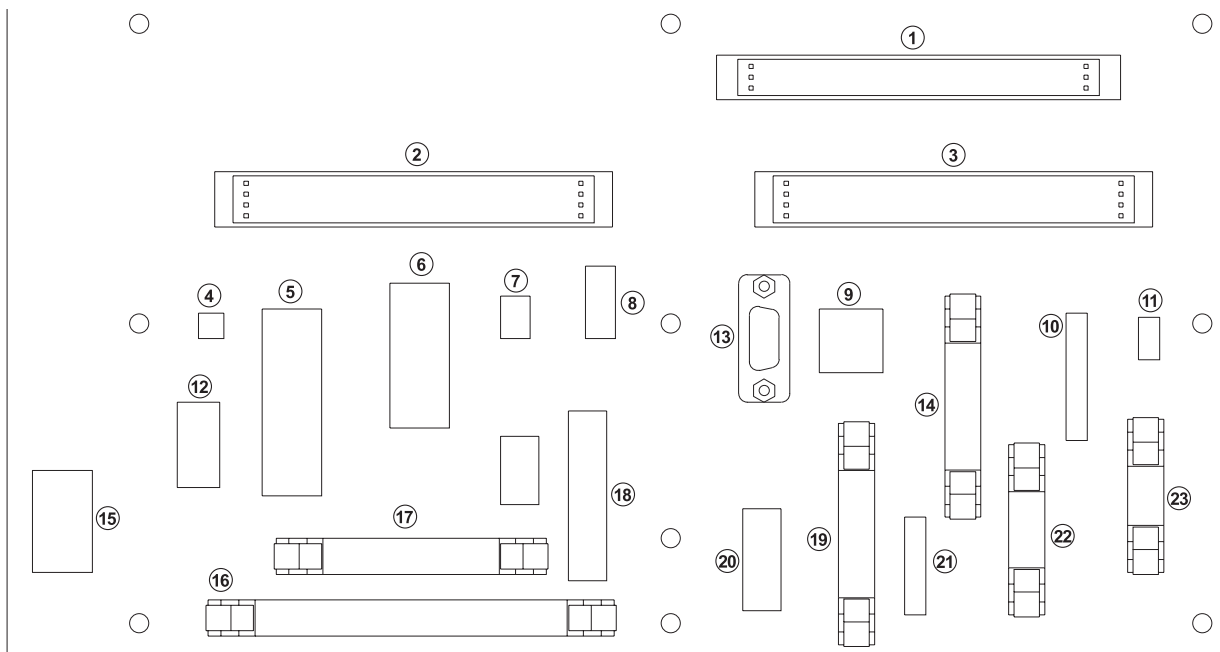

Figure 4-21 Connector Positions on the Connector Board
4. Remove each connector from the connector board (see *Figure 4-21 Connector Positions on the Connector Board* and refer to *Table 4-2 Module Positions on the Connector Board* when reconnecting cables).